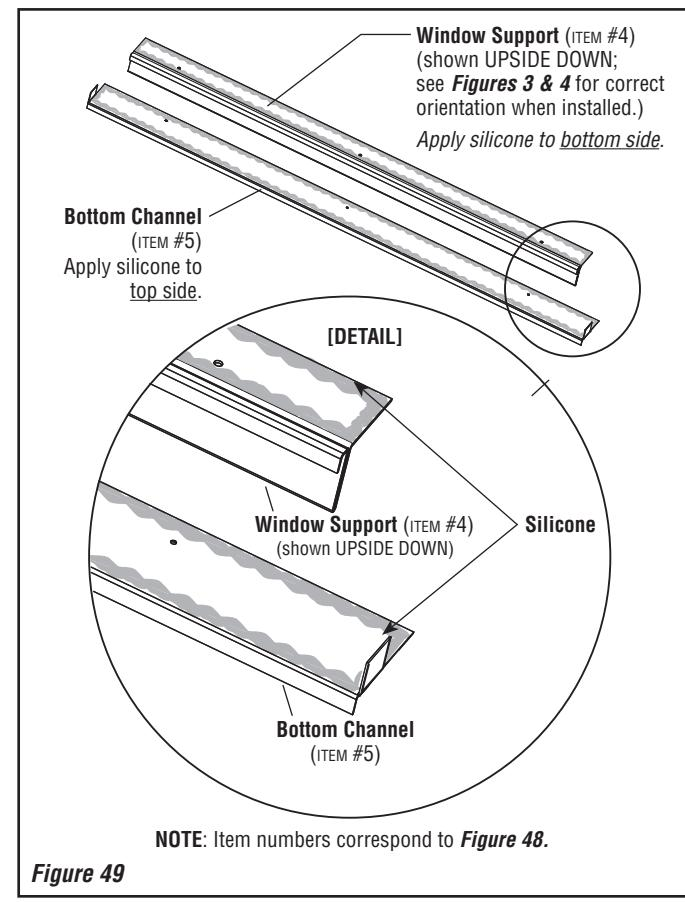

Figure 49
2. Apply silicone to bottom side of **Window Support** (ITEM #4) and top side of **Bottom Channel** (ITEM #5), as shown in **Figures 49 and 52.**